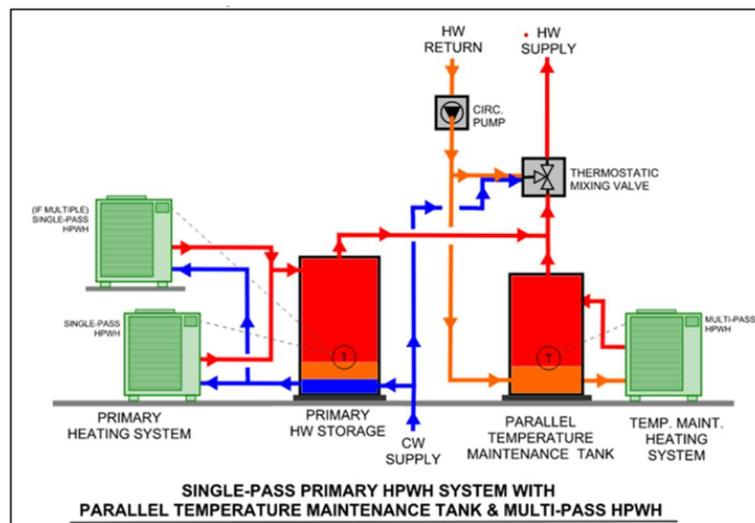

Figure 1. Single-Pass Primary HPWH with Parallel Temperature Maintenance Tank System
- d. Hot water circulation returned to a temperature maintenance storage tank in parallel with multi-pass HPWH for reheat (Figure 1).
The implantation in Ecosim gives the option of having two separate heaters, the primary and a “loop” heater, referred to in the AWHs as the temperature maintenance tank. In Figure 1, the primary heater is on the left of the cold-water supply (CW supply) and the temperature maintenance or loop tank is on the right. All of the above systems are possible in the Ecosim by changing the primary and loop heater inputs.